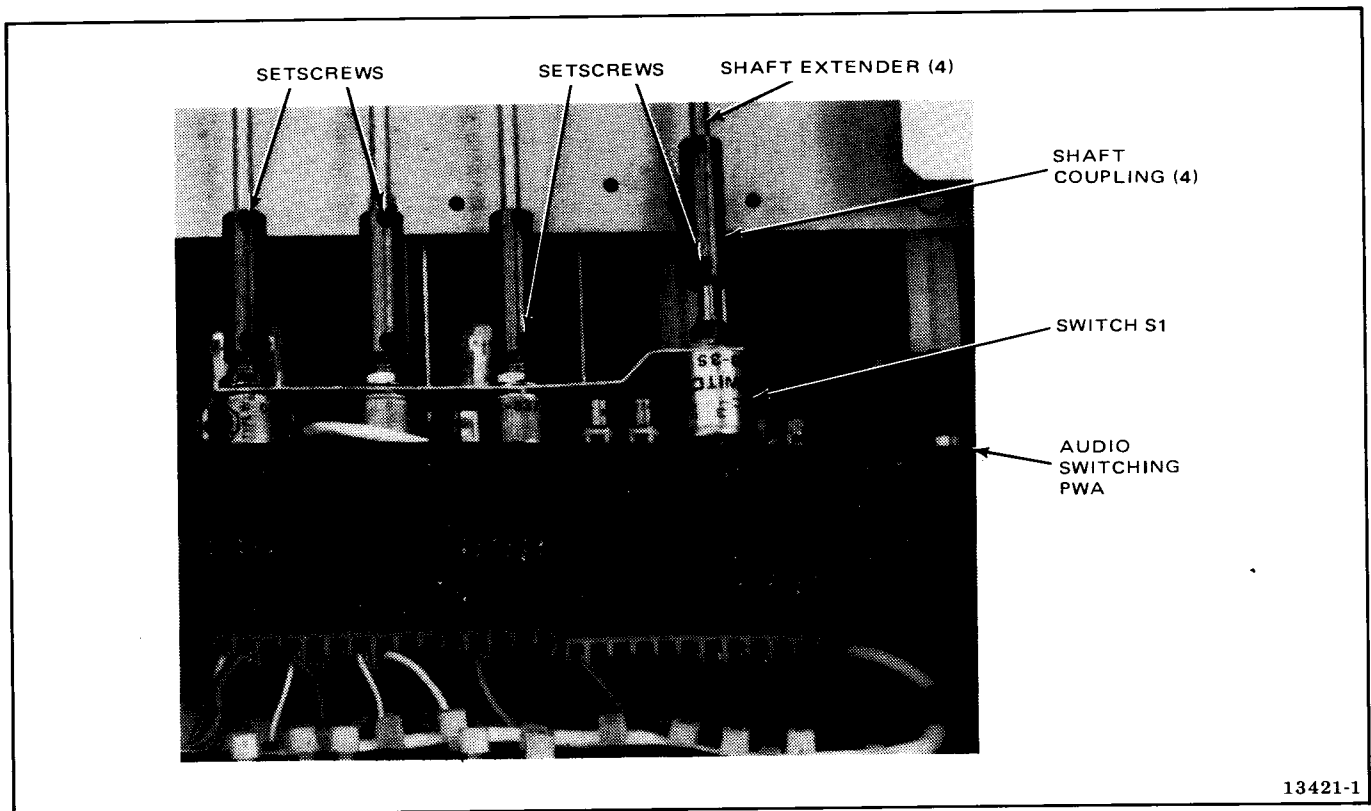

Figure 2-7. MM-1100 Electronics Assembly
- a. Loosen the setscrew (Figure 2-7) closest to the PWA on each of the four shaft couplers. Slide the four shaft extenders forward toward the front of the electronics assembly.
11. Install four shaft couplers removed in step 6a. If the existing shaft extender for selector switch S1 is too short, use new shaft extender (4210350-04) furnished in the kit. See Figure 2-7.